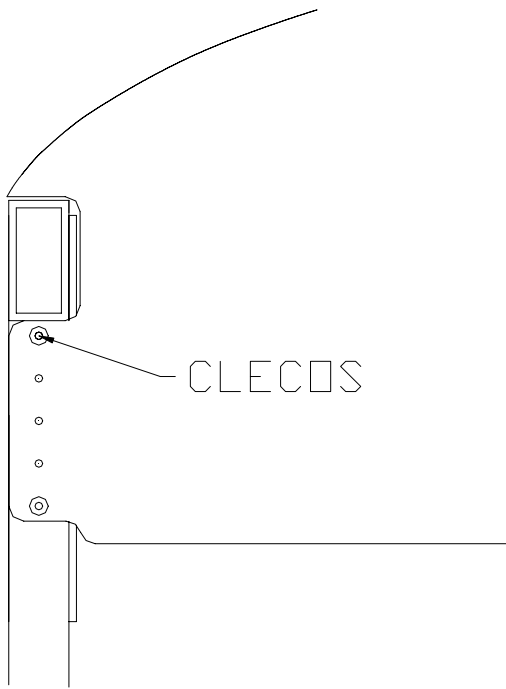

Figure 9.9.4
- 5) Drill five #40 holes through the FUS-27 root rib and the FUS-04 upright. Figure 9.9.4.